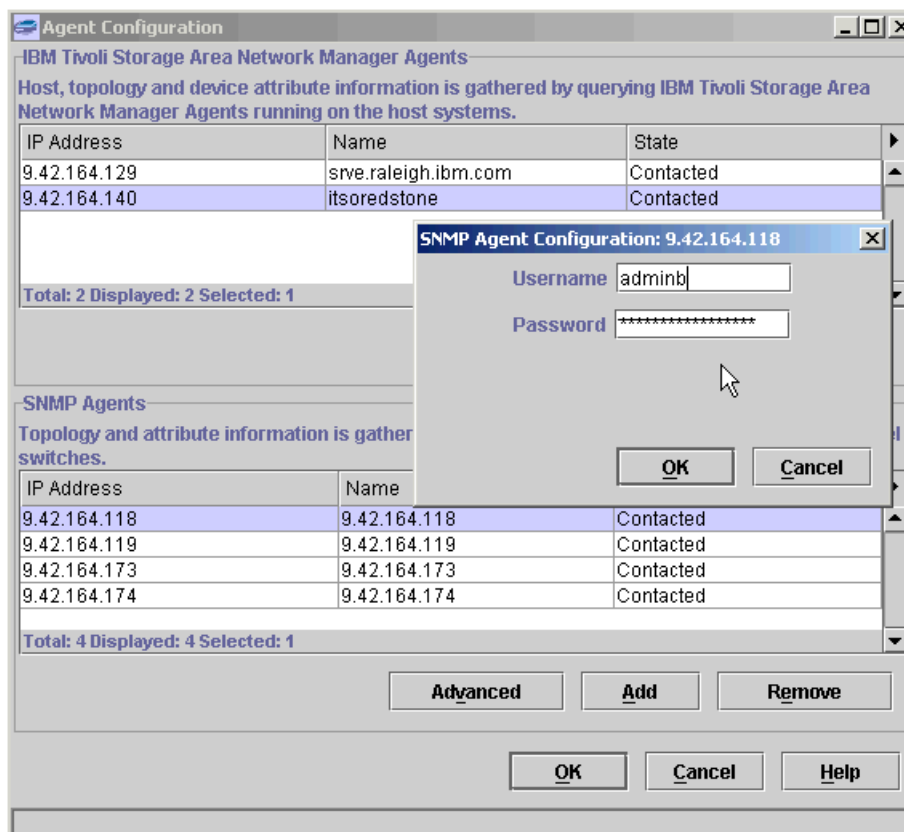

Figure 14-7 SNMP agent configuration: Switch user ID and password
- The top half of the Agent Configuration window in Figure 14-7 accommodates the agents installed on your host systems. In this example, we installed the agent on the master console by default and, in our example, on the windows host SRVE. When you install the Tivoli SAN Manager agent on your host, it asks for the Tivoli SAN Manager manager's host name and address. We have four Fibre Channel switches that we want Tivoli SAN Manager to report on, so we added them as well.